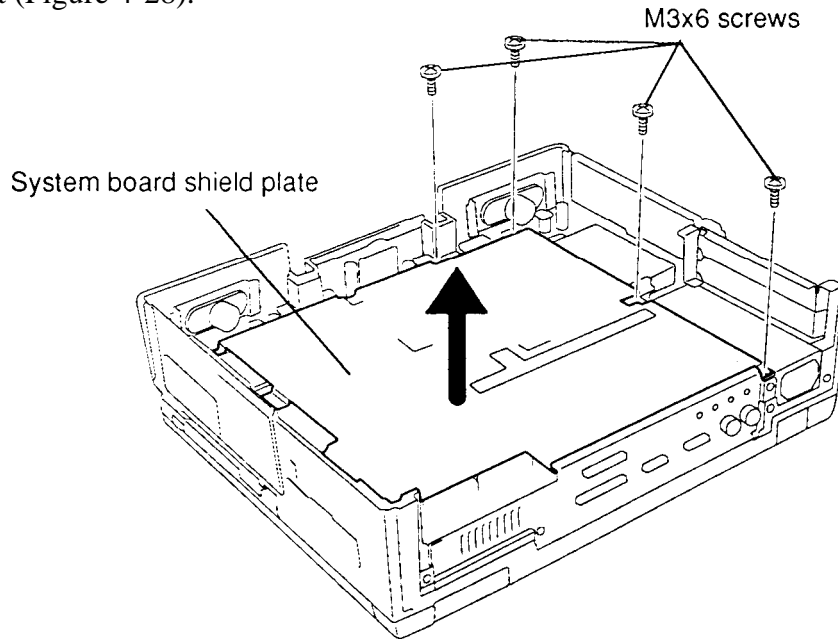

Figure 4-28 Removing the System Board Shield Plate
4. Remove the **four M3x6 screws** securing the **system board shield plate** and lift it out (Figure 4-28).
4. Set the **system board shield plate** in place and secure it with **four M3x6 screws** (Figure 4-28).